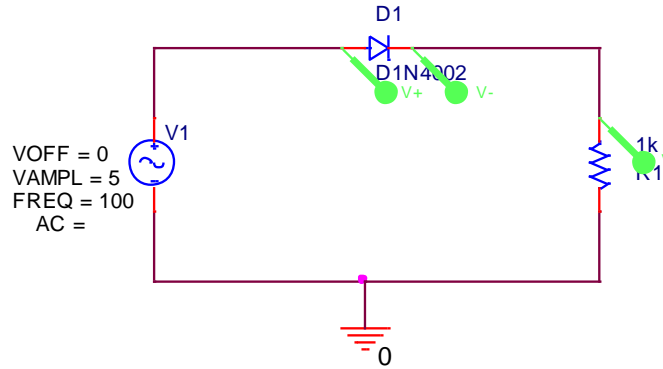
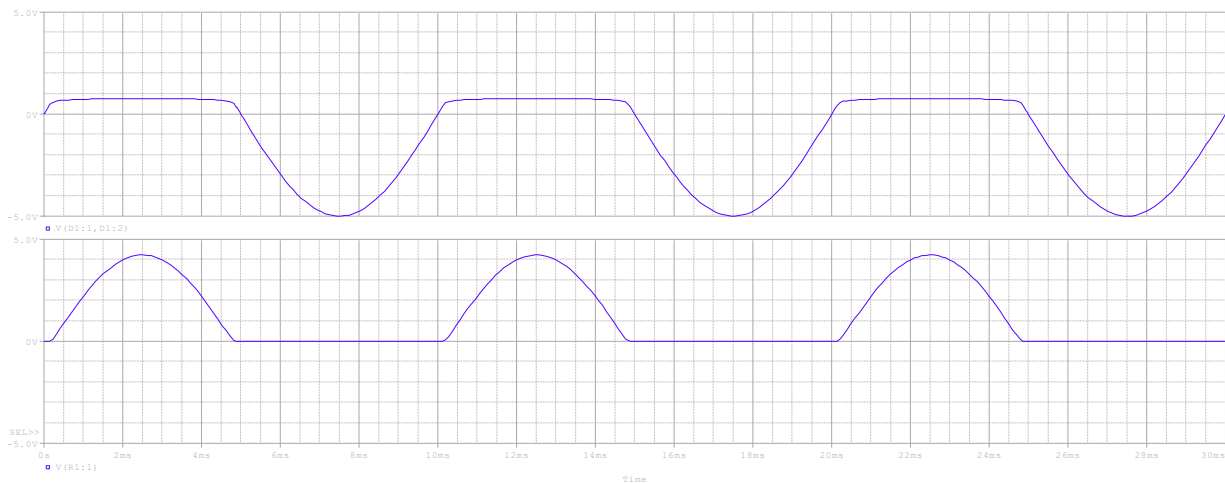

Figure 46: Half-wave Rectifier Circuit
Figure 47: Diode Voltage Drop (Top) and Voltage Drop across R1(Bottom)
Let's perform *transient analysis* of the same circuit with a sinusoidal AC source. Circuit is shown in figure 46 and simulation is shown in figure 47.
It can be observed from figure 47 that as long as diode is OFF, i.e., when the voltage from anode to cathode is less than 0.7 V approximately, there is no voltage drop across the output resistor as there is no current flow in the circuit. All the voltage is dropped across diode. When diode is ON and current is flowing in the circuit, there is a voltage drop across the output resistor and the voltage across the diode is constant, which is equal to the junction voltage ($\approx 0.7V$). Observe that there is no negative voltage cycle across the output resistor at any time, hence we say that the output voltage has been *rectified* from AC to *pulsating DC*. Since diode is conducting (ON) for only half